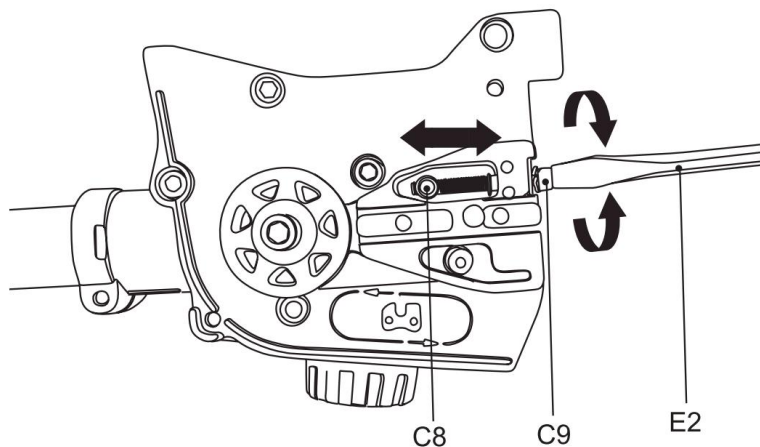

Fig. 9
5) Use the screwdriver end of the multi tool (E2) to turn the chain tension screw (C9) in a counter-clockwise direction, then the tension pin (C8) is moved towards the left. If the chain tension screw (C9) is turned in a clockwise direction, then the tension pin (C8) is moved towards the right. (Fig.9)